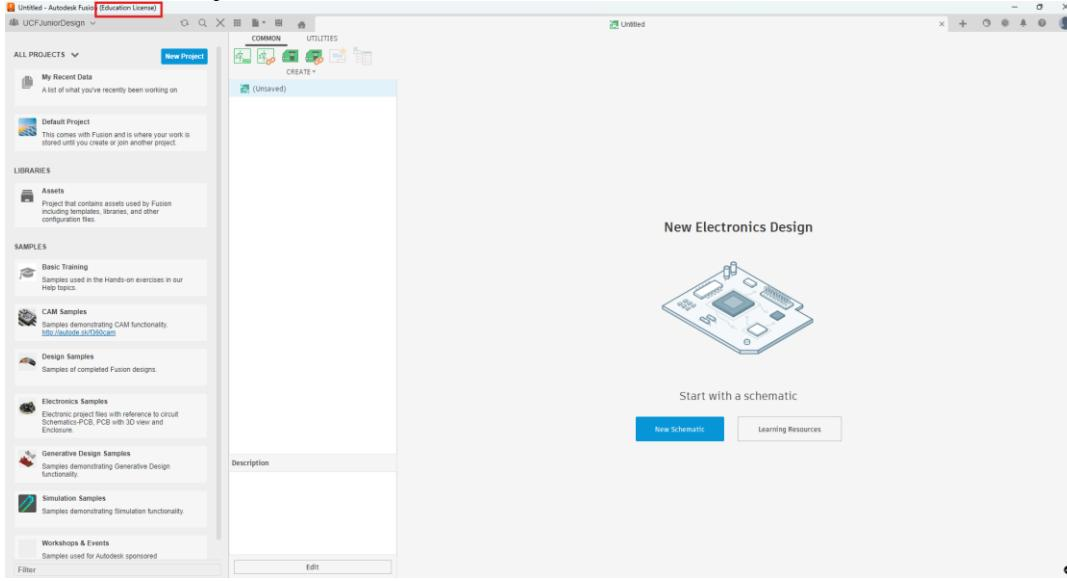

Figure 1: Fusion's startup screen.
3.1: Start the FUSION360 program. Login into Fusion to have access to the educational license. Figure 1 shows the startup window.